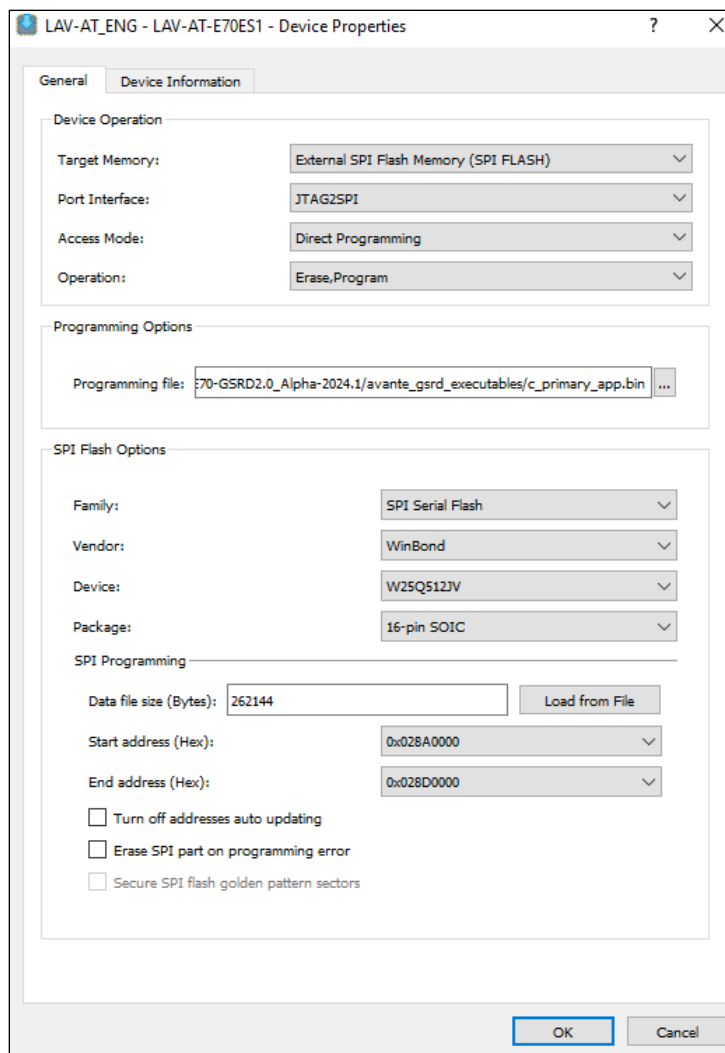

Figure 7.39. Device Properties Window for Primary App Binary without CRC
- To program the **c\_primary\_app.bin** software file into the SPI Flash, Follow the settings as shown in Figure 7.39.